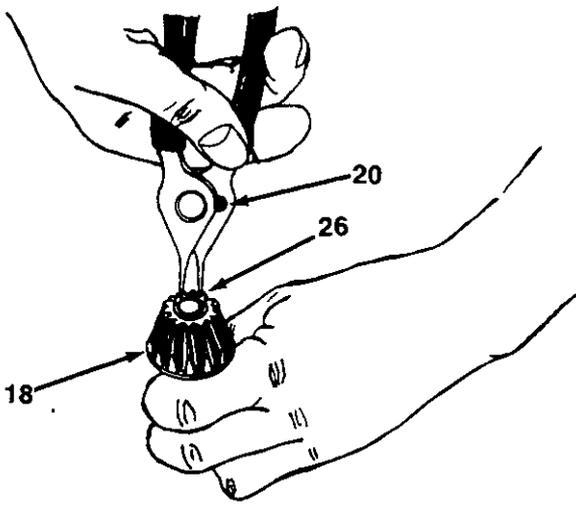

FIGURE 13.
11. With a pair of snap ring pliers, remove the snap ring on the end of input shaft. See figure 13.